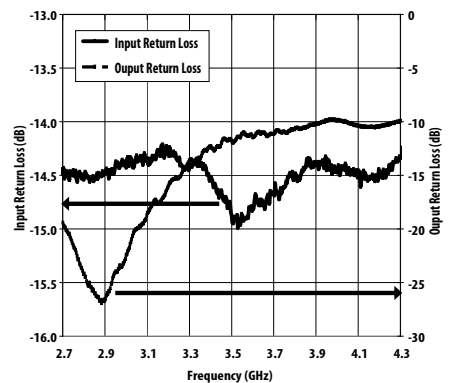

Figure 31. Input and Output Return Loss vs Frequency
1. Measurements obtained using demo board described in Figure 31 and Table 1, List 1. Input and output board losses have been de-embedded.
1. Measurements obtained using demo board described in Figure 31 and Table 1, List 3. Input and output board losses have been de-embedded.
1. Measurements obtained using demo board described in Figure 31 and Table 1, List 4. Input and output board losses have been de-embedded.